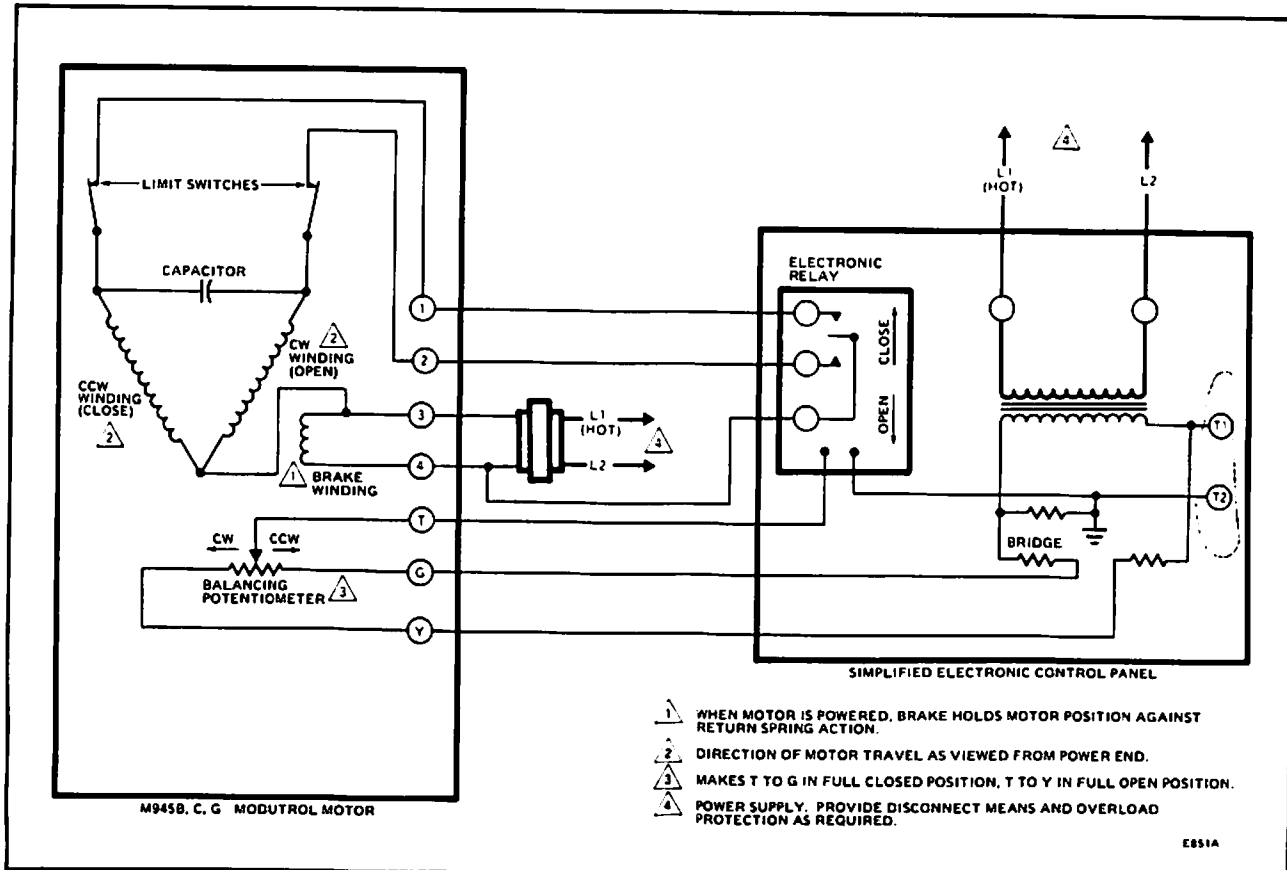

FIG. 4—M945B,C,G INTERNAL SCHEMATIC AND CONNECTIONS TO TYPICAL ELECTRONIC PANEL.
^bRequires external control circuit. See Figs. 4, 5.
M945B,C,G MOTORS (Fig. 4)
1. Disconnect leads from terminals 1 and 2 on motor (see Fig. 4).